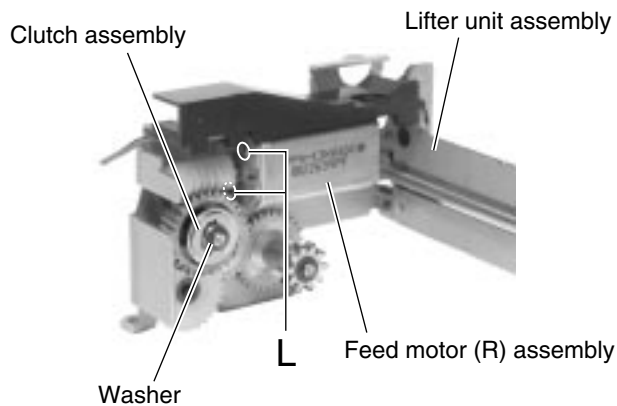

Fig.12
**■ Removing the feed motor (R) (See Fig.12)**